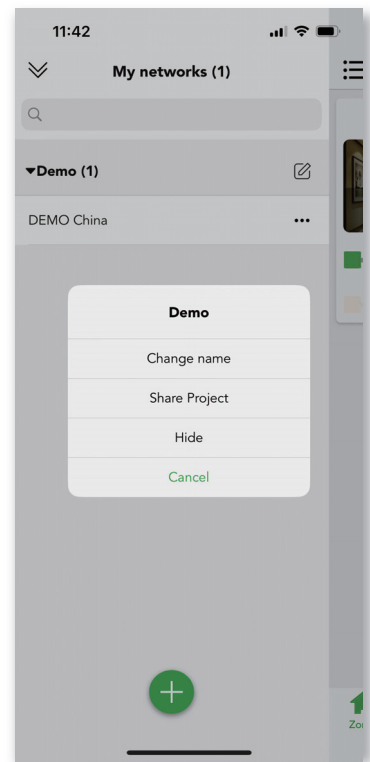

Figure 3.7.1 Project
1. Click  for project management. (see figure 3.7.1)